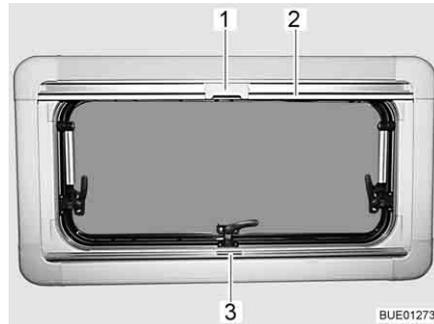

Fig. 101 Hinged window
Closing: ■ Grip the Roman shade using the holding bar (Fig. 101,3), pull it from the bottom to the top and then release it at the desired height. The Roman shade will stay at this height.
Closing: ■ Pull the insect screen down using the holding bar (Fig. 101,2), until it touches the holding bar of the Roman shade (Fig. 101,3).
■ Clip the catch (Fig. 101,1) on the insect screen into the handle of the Roman shade.
Opening: ■ Push the catch (Fig. 101,1) on the insect screen inwards.
■ Move the insect screen back slowly on the holding bar (Fig. 101,2).